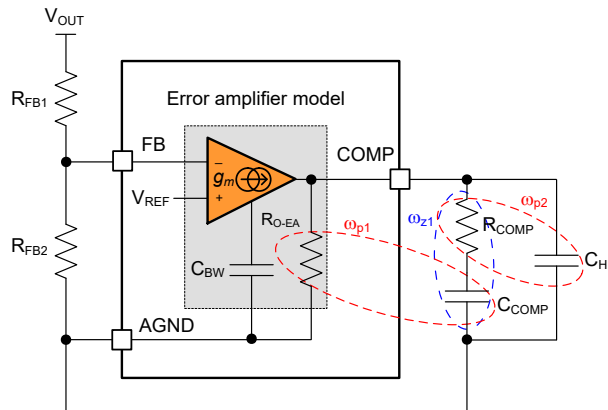

Figure 10-3. Error Amplifier and Compensation Network
Figure 10-3 shows a Type-II compensator using a transconductance error amplifier (EA). The dominant pole of the EA open-loop gain is set by the EA output resistance, R_{O-EA} , and effective bandwidth-limiting capacitance, C_{BW} , as shown in Equation 28.